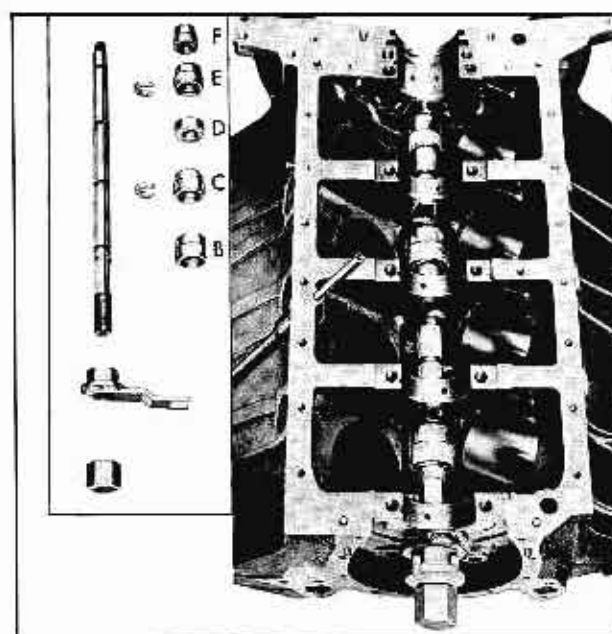

Fig. 10-31 Installing Camshaft Bushings
2. Hold arbor "B" in position between No. 1 and 2 bearing bores and slide shaft through No. 1 bearing bore, through arbor "B," and through No. 2 bearing bore, Fig. 10-31.
7. Slide arbor "A" over front end of the shaft, making sure that the grooved end of locating arm is centered over front end of the crankshaft, Fig. 10-31.